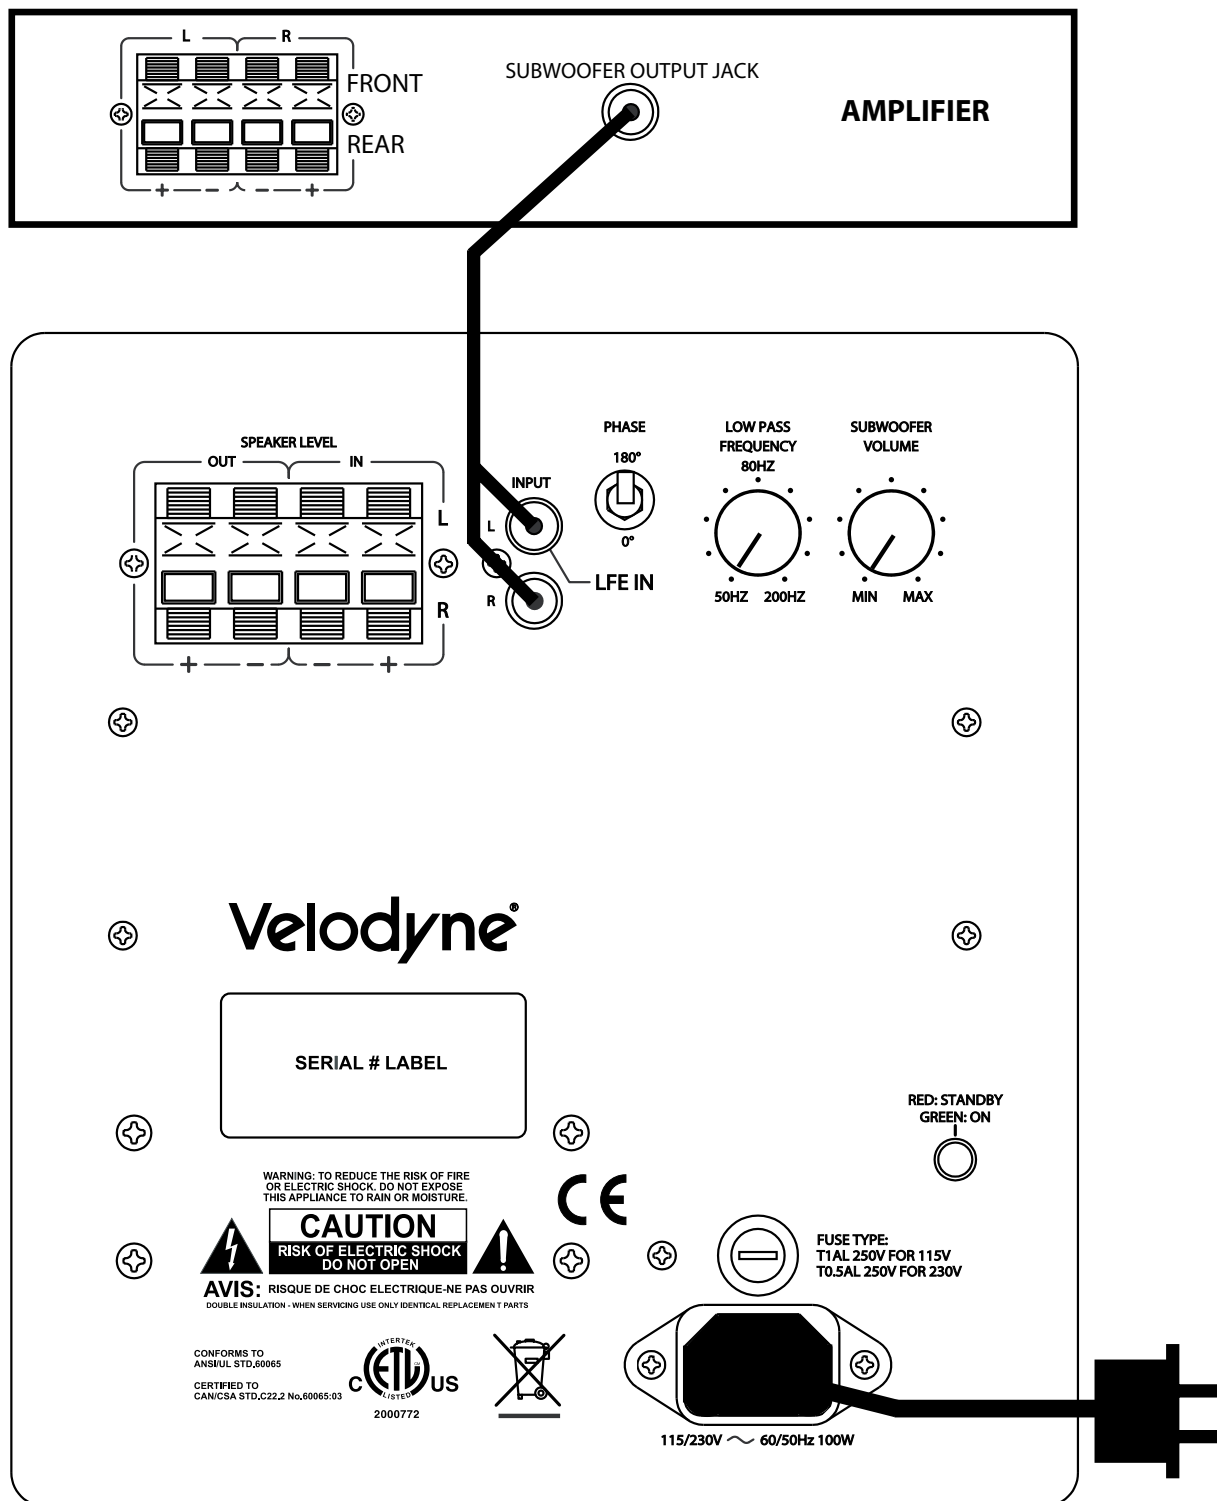
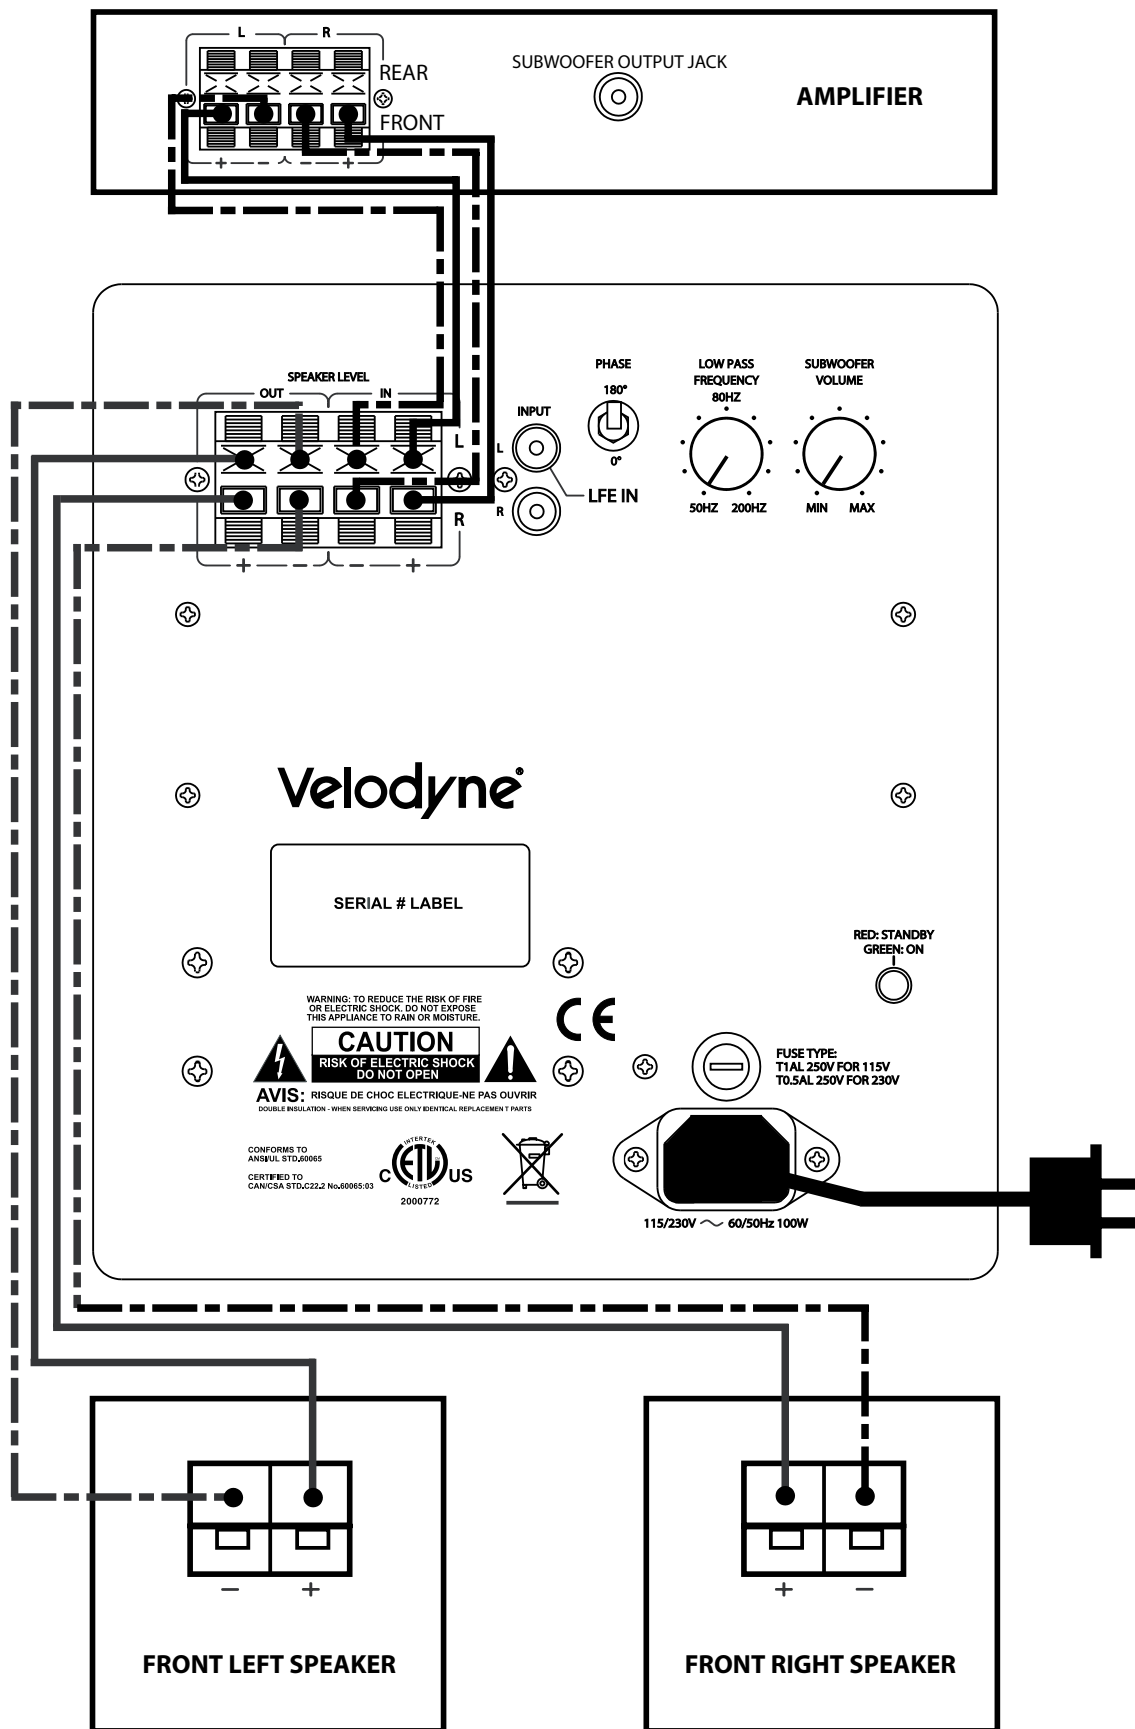

Figure 2a. Line-Level Subwoofer Connection Diagram
Figure 2b. Speaker-Level Subwoofer Connection Diagram
- 1) If using line level jacks, BOTH THE LEFT AND RIGHT INPUT CAN BE USED – never use just the left or just the right input. If the subwoofer's signal comes from the LFE channel of your receiver, use a “Y” splitter to connect to both the left and right inputs.* If using line level connections from a preamp or signal processor, use both Left and Right inputs from your preprocessor or preamp and connect them to the Left and Right inputs on your subwoofer. (See figure 2a on page 7.)
- 2) If using a receiver with LFE out, be sure the LFE channel is sending adequate signal to the subwoofer. We recommend setting the subwoofer's level to the 9 o'clock position (the 1/4 volume setting) and then adjust the LFE channel on your receiver or processor to achieve the desired bass output. See your receiver or processor's owner's manual for more information. (See figure 2b on page 8.)
(Refer to Figure 2a Line-Level Subwoofer Connection Diagram and Figure 2b Speaker-Level Subwoofer Connection Diagram, pages 7 and 8 for connection diagrams.)